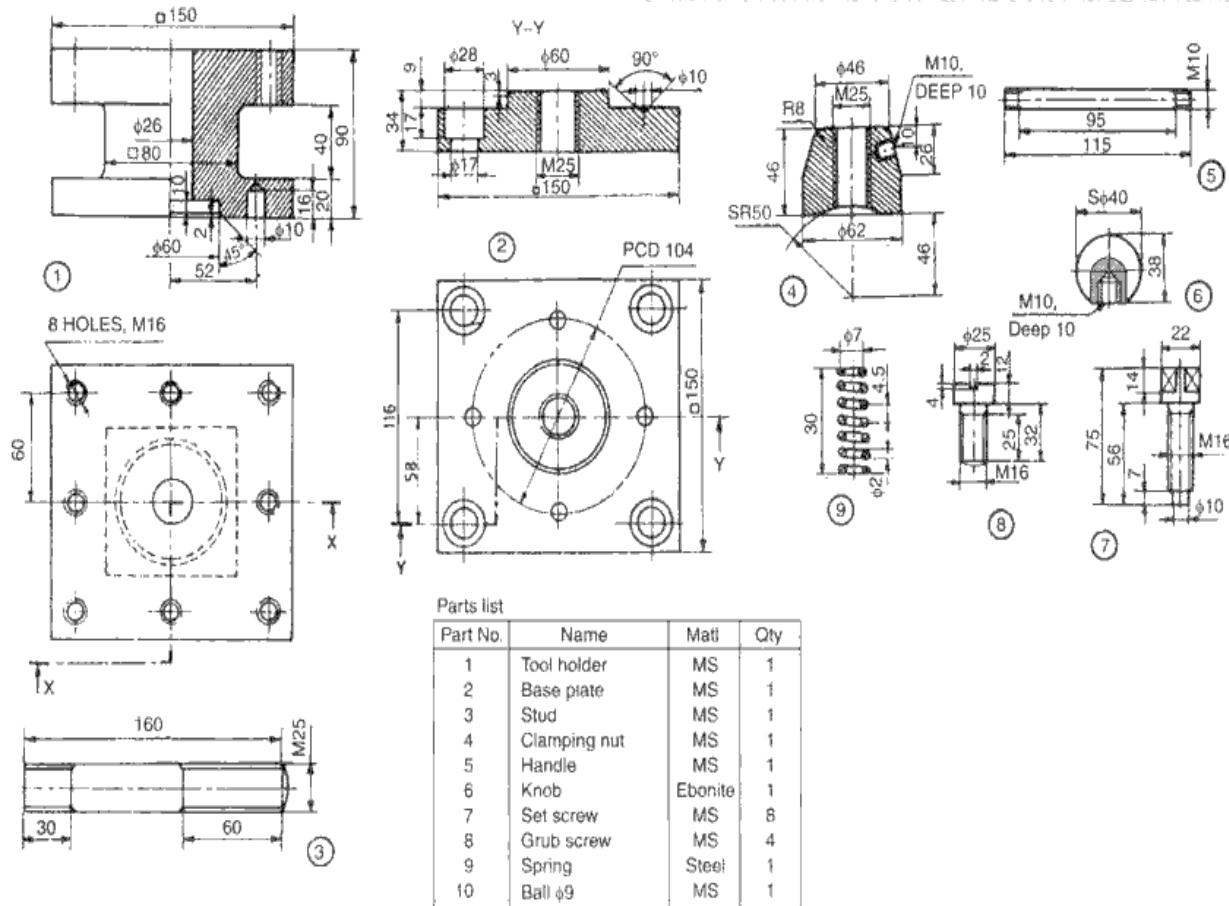

Fig. No. 1 – Details of Square Tool Post
Q.4. Attempt **any two** of the following. (12)
a) Represent transition fit and interference fit. (6)
b) Show surface roughness value and roughness grade symbol for roughness grade number N3. (6)
c) Highlight the advantages of Computer Aided Design and Drafting (CADD). (6)
Q.5. Attempt **any one** of the following. (24)
a) Fig. No.1 shows details of square tool post. Draw sectional front view and top view of the assembly and also prepare bill of material. (24)